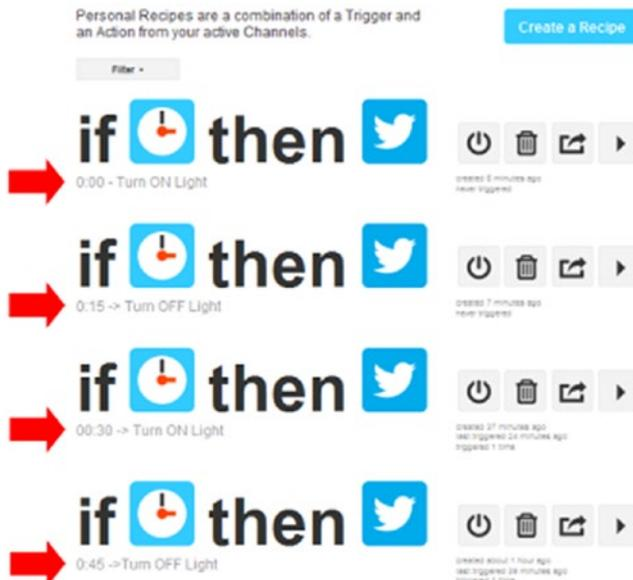

Figure 8-22. List of recipes
16. After creating the four recipes, you should get a list like the one shown in Figure 8-22.